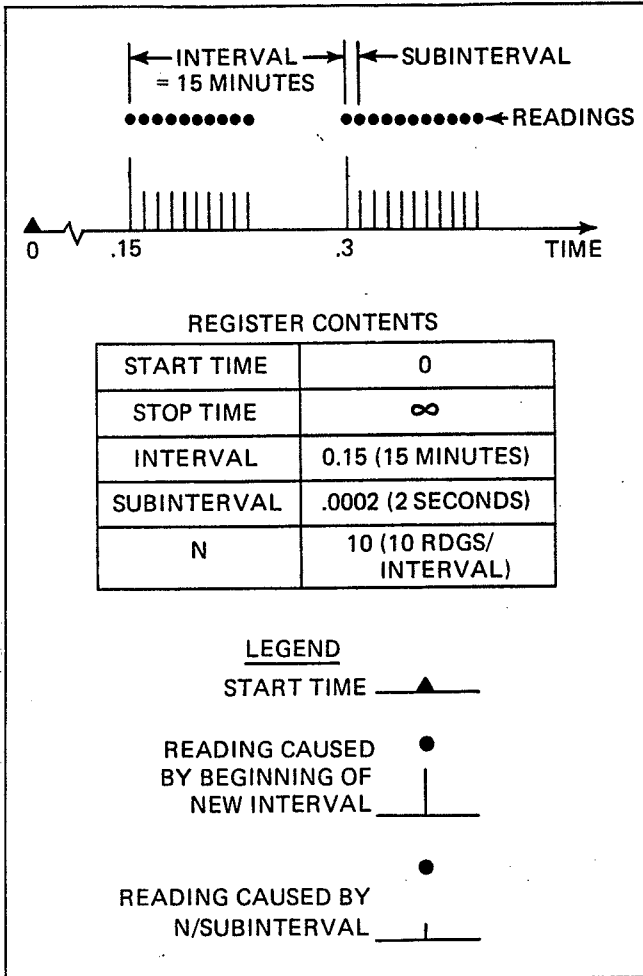

Figure 3.12 - Example of Interval, Subinterval and "N" Registers
3.4.11.9 Some applications require a read timing pattern similar to that shown in Figure 3.12. This read timing pattern is commonly used whenever a group of signals must be monitored within seconds of one-another periodically, as is the case when simultaneous temperature measurements must be made throughout a unit-under-test. Notice in this example that the Subinterval and N Registers are used to cause tight groups of 10 readings to occur every Interval time.